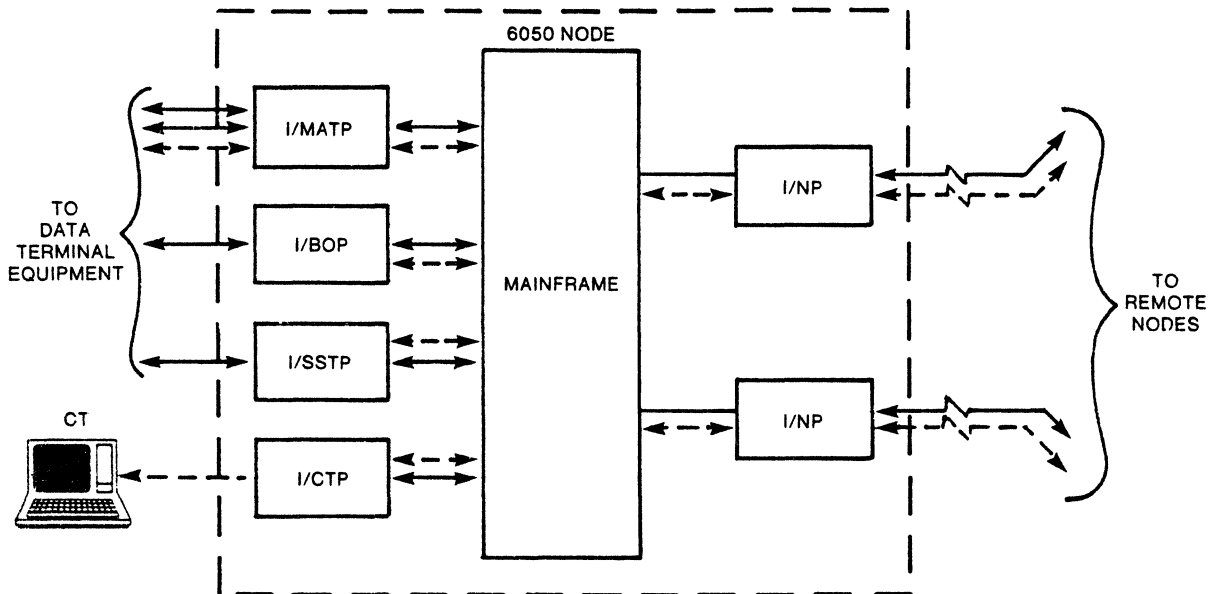

Figure 2-2
The control terminal is interfaced to a 6050 DCP mainframe via an Intelligent Control Terminal Port (I/CTP) (see Figure 2-2). The terminal in this configuration is referred to as the Control Terminal (CT).